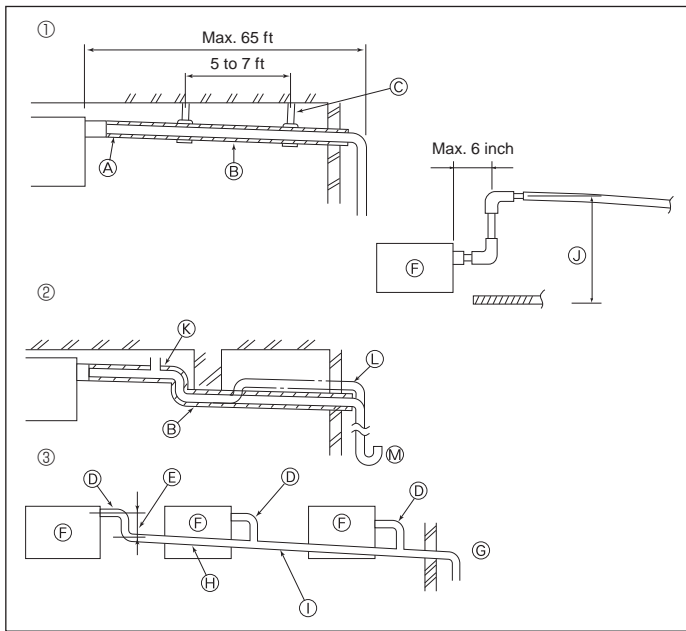

Fig. 3-1
3.1. Drainage piping work (Fig. 3-1)
- ① Correct piping
- ② Wrong piping
- ③ Grouped piping